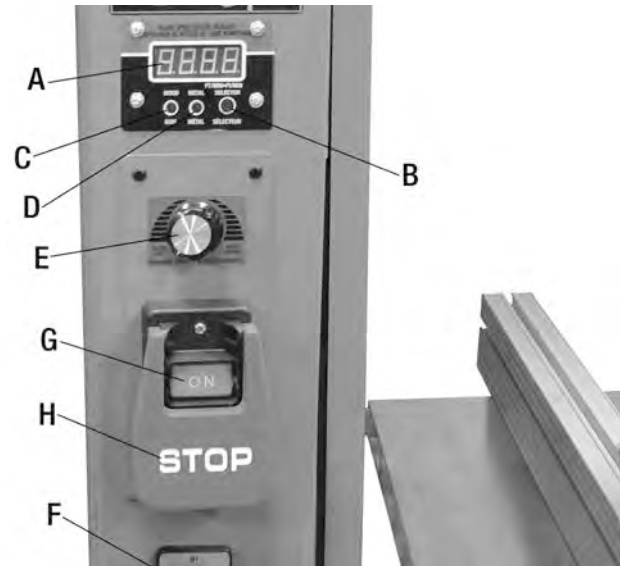

FIGURE 16
In order for the digital readout (A) Fig.16 to indicate the correct speed range (Wood or Metal), press the "Selection" button (B). The corresponding mode "Wood" LED (C) or "Metal" LED (D) will light up when selected.
The variable speed control dial (E) Fig.16 adjusts the blade speed and can be adjusted before or during operation. Turn the dial clockwise to increase blade speed and counterclockwise to decrease blade speed.
1. Insert the power switch key into the power switch (F) Fig.16. Turn the key to the ON position to get power to the machine.
2. Press the On button (G) Fig.16 to turn the motor on and start the cutting operation.
3. Press the STOP paddle (H) Fig.16 to stop the motor.